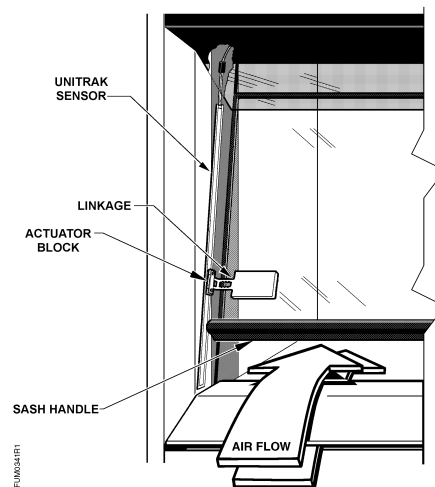
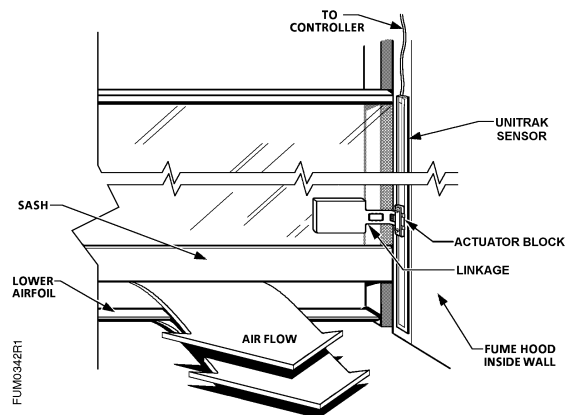

Figure 3. Outside Installation of UniTrak Sensor.
Figure 4. Inside Installation of UniTrak Sensor.
7. Locate the correct mounting area for the UniTrak sensor. See Figure 3 and Figure 4.